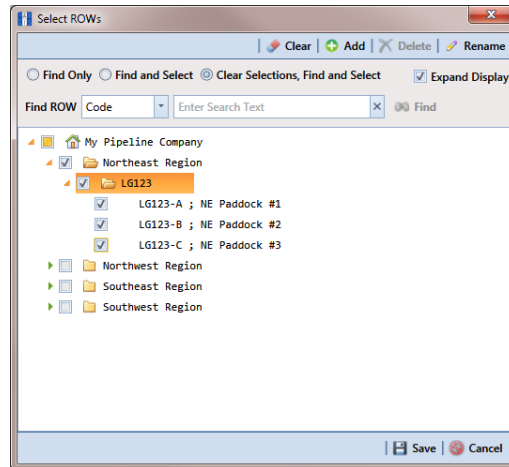

Figure 4-12. Select ROWs
- 1 Click the **Select ROWs** button  to open the *Select ROWs* window (Figure 4-12).
- 1 Click the **Select ROWs** button  to open the *Select ROWs* window (Figure 4-12, page 151). Select one or more pipeline segments you want to work with by clicking the check box for each pipeline segment. Then click  **Save** to close the window.